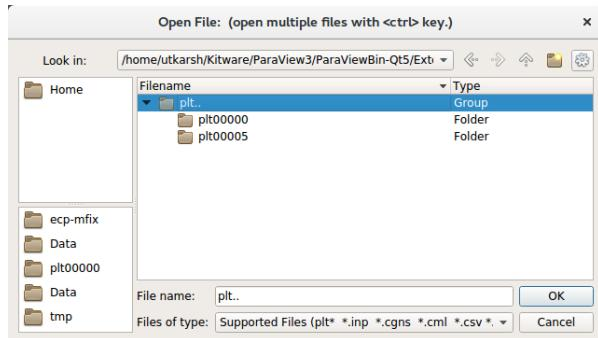

Fig. 15.2: : File dialog in ParaView showing a group of plotfile directories selected
2. Navigate to your run directory, and select the fluid or particle plotfile. Note that you can either open single/multiple plotfile(s) at once by selecting them one by one or select an ensemble of file, labelled as `plt..` and indicated as a Group in the “Type” column of the file explorer (see Fig. 15.2). In the later case, Paraview will load the plotfiles as a time series. ParaView will ask you about the file type – choose “AMReX/BoxLib Grid Reader” or “AMReX/BoxLib Particles Reader”.
select a group of directories to read them a time series, as shown in Fig. 15.2, and click OK. ParaView will ask you about the file type – choose “AMReX/BoxLib Particles Reader”.